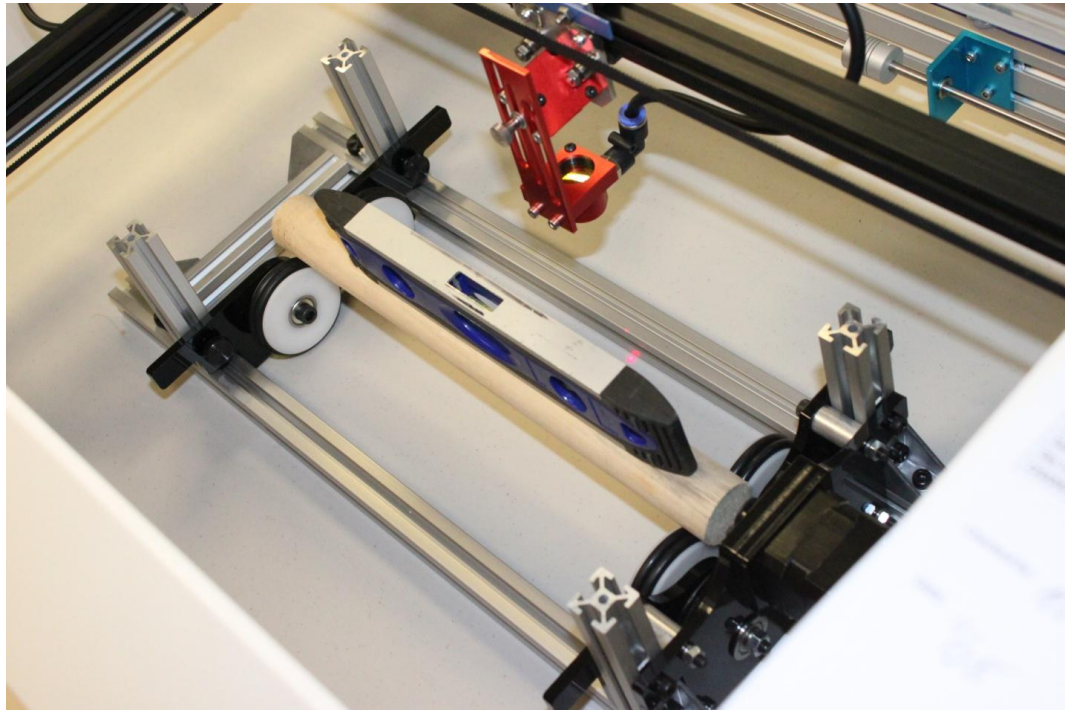
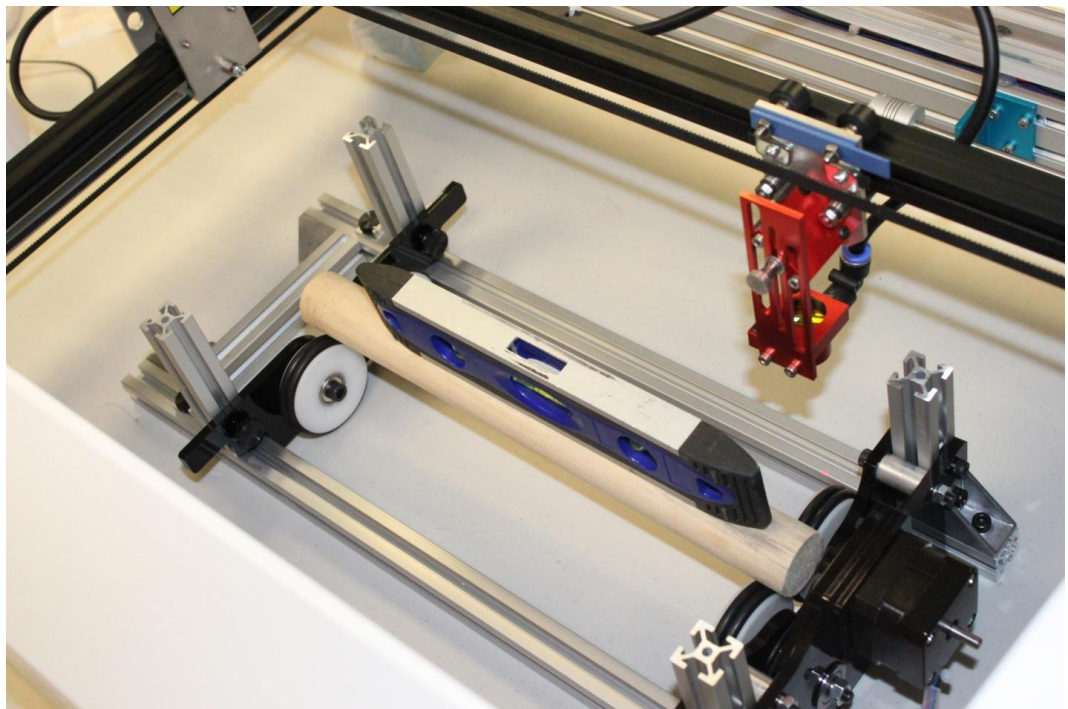

Figure 51 - Rotary Alignment Step 2
Figure 52 - Rotary Alignment Step 3
2. Slide the laser head to the right, keeping the red dot in the same relative position on the rotary frame member as you go (Figure 51 and Figure 52).